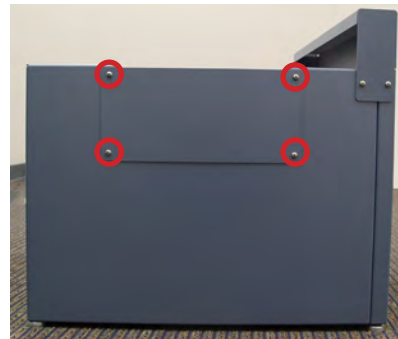

Figure 7
2. Using a #2 Phillips screwdriver, remove the screws securing the back and side panels (4 per panel) of the pedestal (Figure 7).